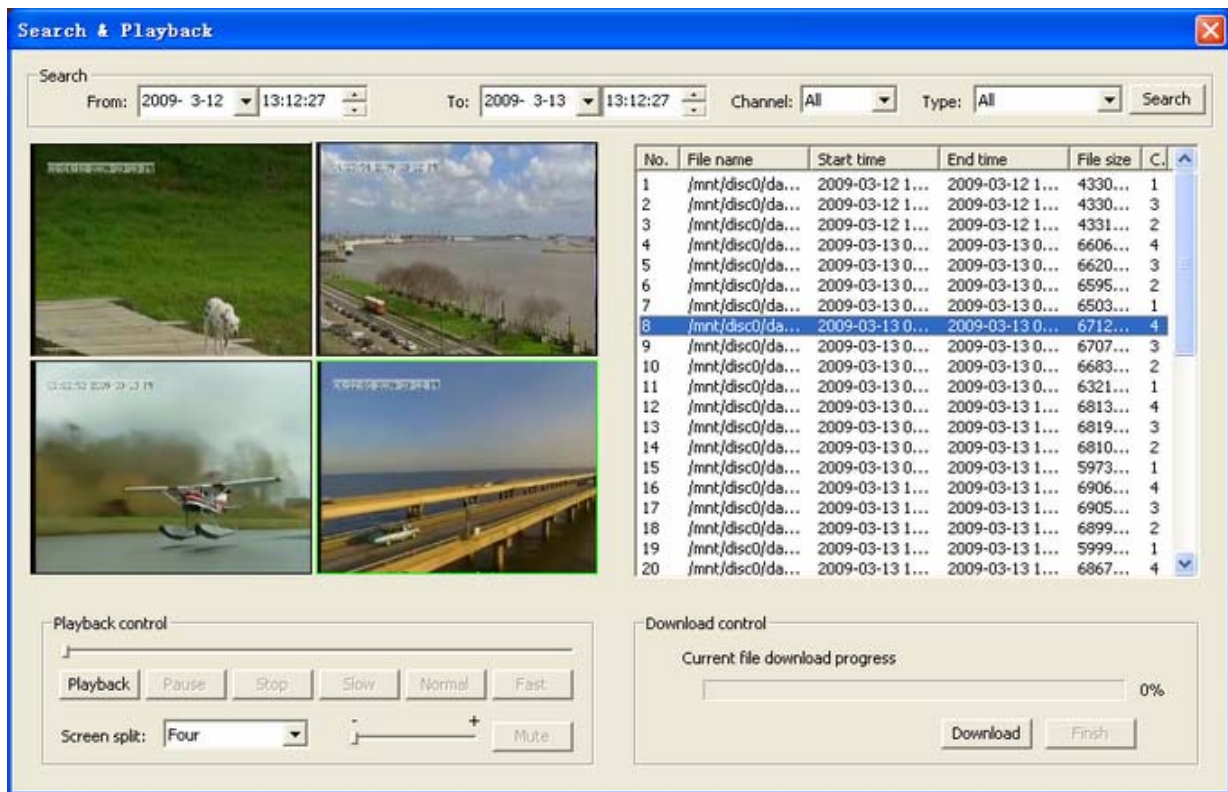

Fig. 75
4. Download: select one of the record slice, press “Download” to download the slice (Fig.75).